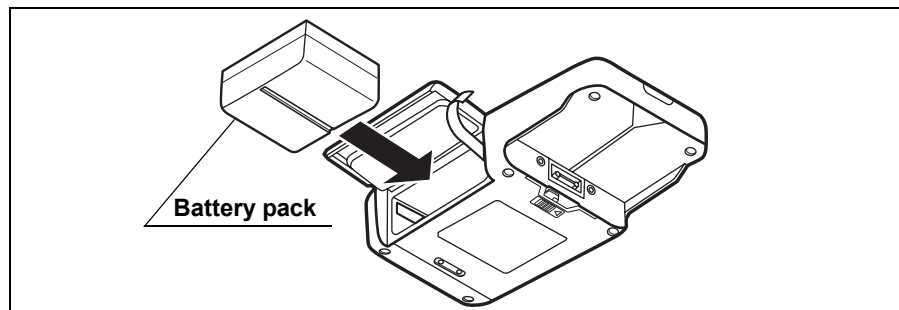

Figure 5.21
2. With the battery pack removal ribbon hanging out of the battery pack slot, insert a fully charged battery pack into the slot (see Figure 5.21 (b)).